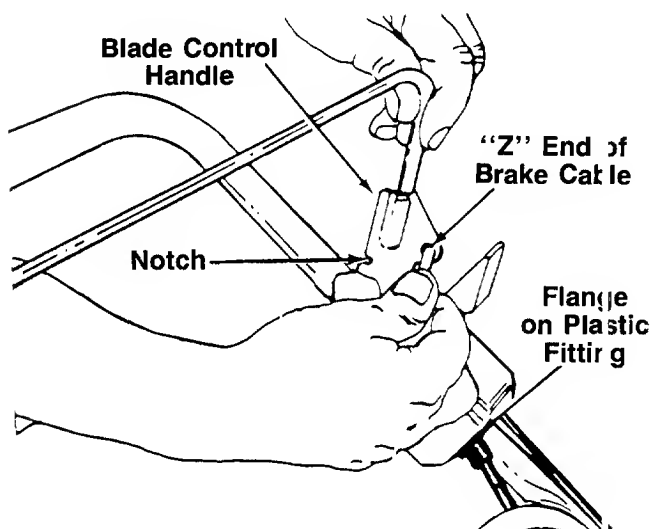

FIGURE 7.
3. Hook the "Z" end of the brake cable into the hole in the blade control handle from the inside to the outside as shown in figure 7.